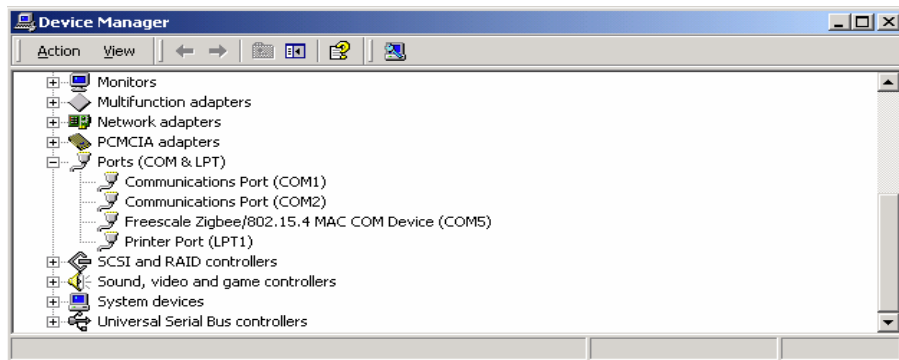

Figure 15. COM Port Determination in Device Manager
- b) Select the “Hardware” tab, and click the “Device Manager” button. The Device Manager window appears as shown in Figure 15.
- d) The COM Port selected by the system is titled “Freescale ZigBee/802.15.4 MAC COM Device (COM5)” as shown in Figure 15.